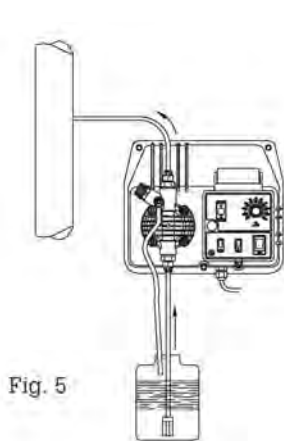
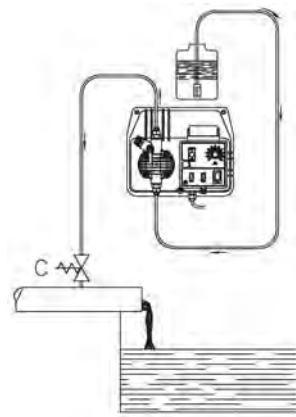

Fig. 5
Fig. 6
- Locate the pump in position as shown in fig. 5 taking into account that it can be located over or under the liquid level within a maximum difference of 2 meters. The injection point must always be located higher than the liquid being injected. Do not install the pump directly on the tank as some additives produce vapour which may damage the equipment. For correct installation see fig.12. If the plant being treated operates at atmospheric pressure (free discharge additive) and the additive tank must be placed higher than the injection point (Fig. 6), check periodically that the injection valve is operating correctly, as excessive wear could cause additive injection by liquid loss (even when the plant is not operating). If the problem persists, insert a correctly calibrated counter pressure valve C between the dosing pump and the injection point (Fig. 6). For liquids that give off aggressive exhalations, do not install the pump over the tank unless the tank is hermetically sealed.